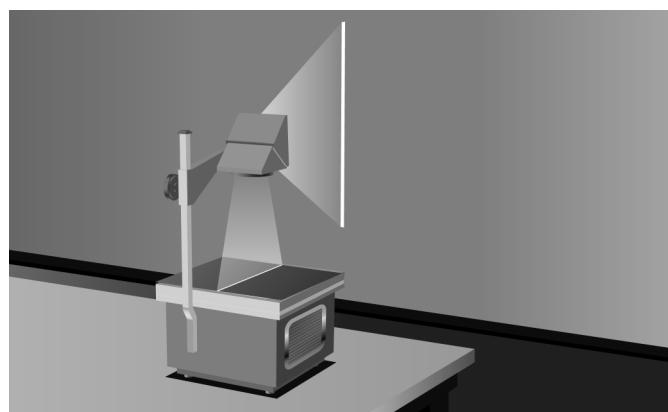

Figure 1
- An overhead projector bulb produces a very white, bright light when the filament is white hot. Set up the projector to shine its light on a white wall or board. Two straight-edge pieces of heavy paper are placed about 5 mm apart on the horizontal stage of the projector so that they block all of the light except for a thin strip visible on the wall or board (**Figure 1**).